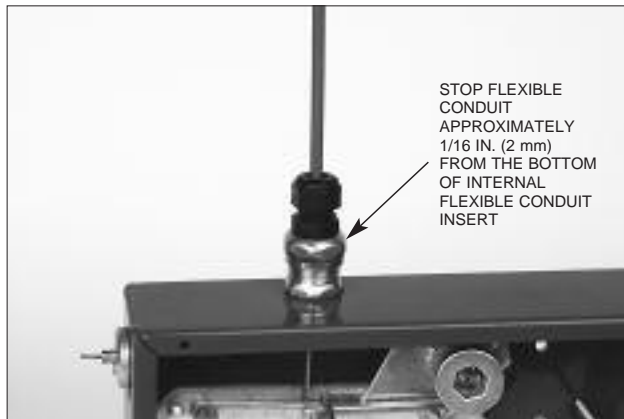

FIGURE 9
9. Slide the flexible conduit into the strain relief until it is approximately 1/16 in. (2 mm) from the bottom of the flexible conduit insert. See Figure 9.